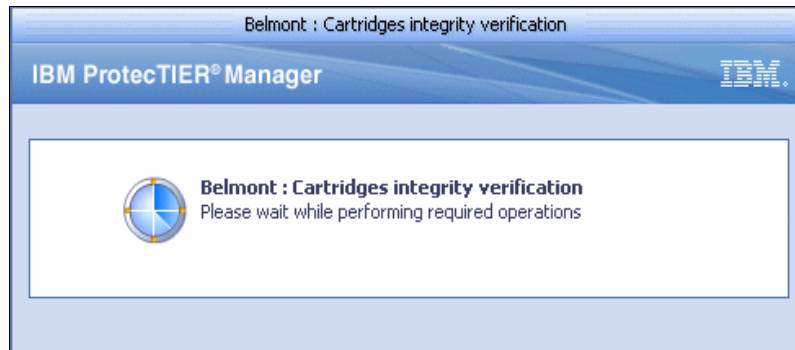

Figure 10-135 Performing cartridge integrity verification window
5. Click **Yes**. The cartridge integrity verification starts (Figure 10-135).